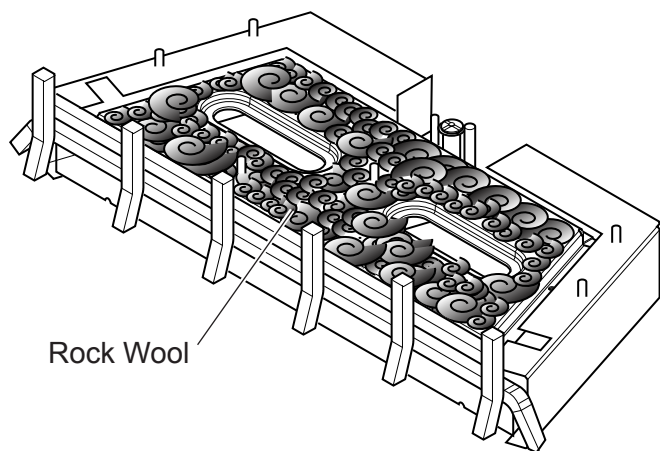
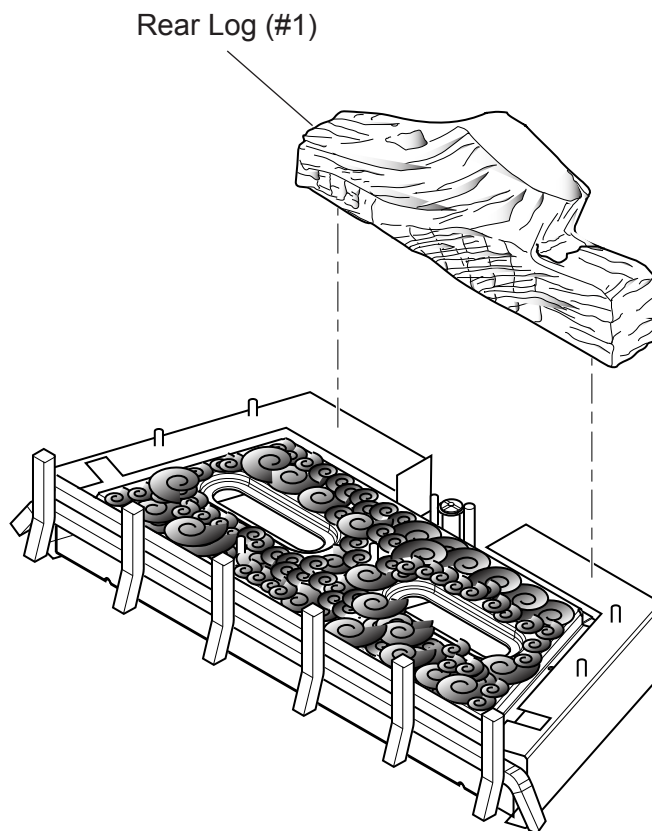

Figure 18 - Rock Wool Placement
Figure 19 - Installing Rear Log #1
2. Break up rock wool (ember material) into dime-sized pieces. Place evenly across burner surface. *See Figure 18.* Do not exceed 1" depth of coverage.
3. Carefully remove seven (7) logs from wrapping.
4. Place rear log (#1) against back of firebox. *See Figure 19.*